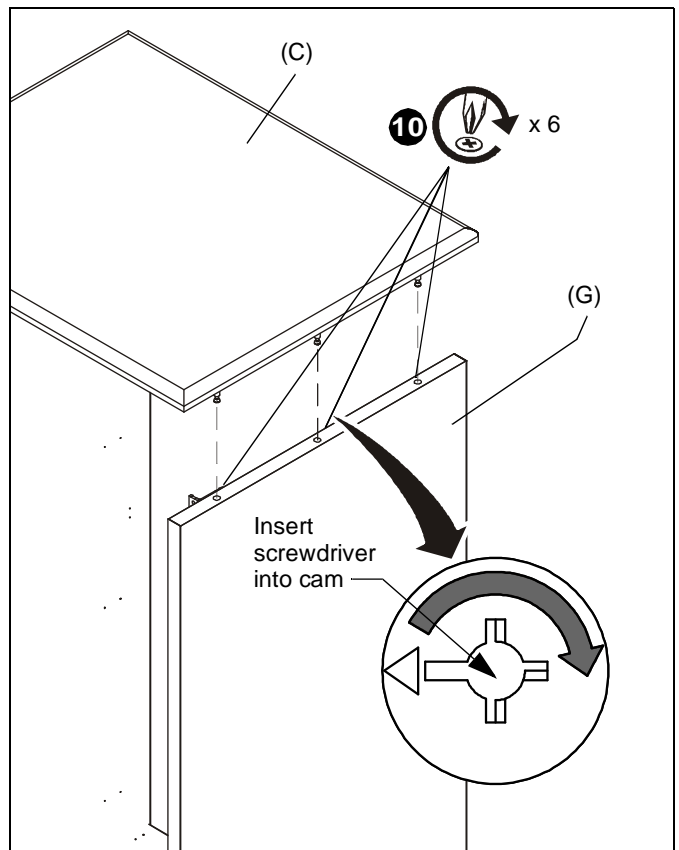

Figure 8
- Place rack top (C) onto side panels, inserting connecting bolts from rack top into tops of both side panels.
- Insert Phillips screwdriver into the cams (in side panels) and turn 1/2 turn (following arrow on cam) to fasten the rack top to two side panels. (See Figure 8)